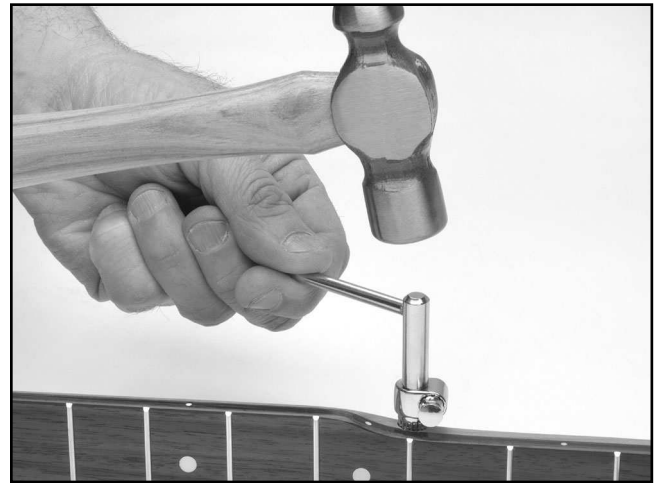

Figure 12. Inserting the 5th string peg.
4. Place the T-wrench over the 5th string peg, shown in **Figure 12**, and carefully drive the 5th string peg into the peghole with a hammer. *Note—Place a non-marring support under the banjo neck before tapping.*